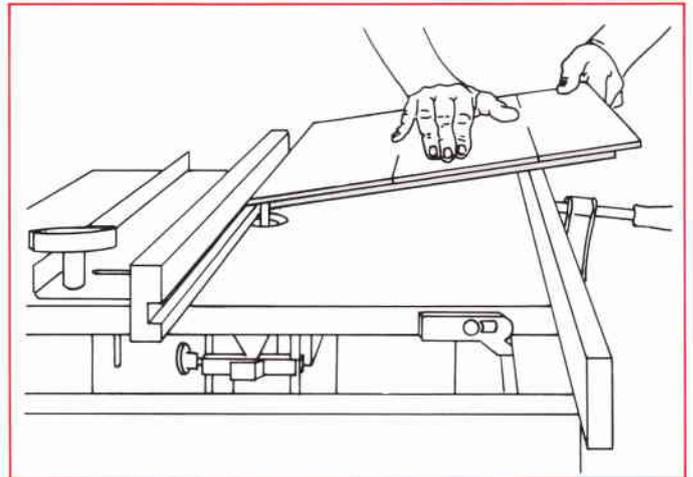

FIGURE 1
5 The panels **L** (2) and **P** (2) require a stepped bevel on their edges. The operations are all performed with the outside face of the panel face down, using a special "jig". **Figure 1**. The main component of this jig is made from your piece of scrap timber (40 x 19 x 650) as follows.